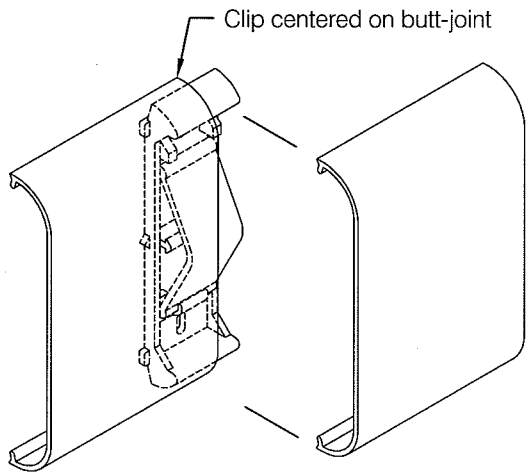

fig 7
- At each WGV-6 cover butt-joint, see **fig 7**
- Step 7:** Measure between accessories and cut the WGV-6 vinyl cover. Miter cut the WGV-6 for all inside corners and special angles not accommodated by the molded accessories. Install a Red-E-Clip® retainer centered at each WGV-6 butt-joint location, see **fig 7**.